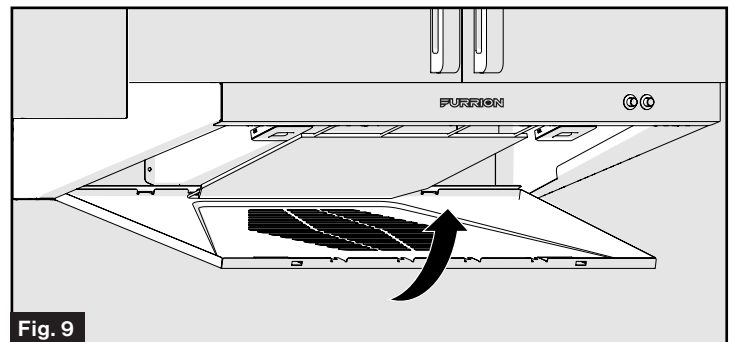

Fig. 9
9. Replace the grill cover to the range hood and press the release tabs until you hear a click. (Fig. 9) The grill cover is securely attached to the range hood. (Fig. 10)